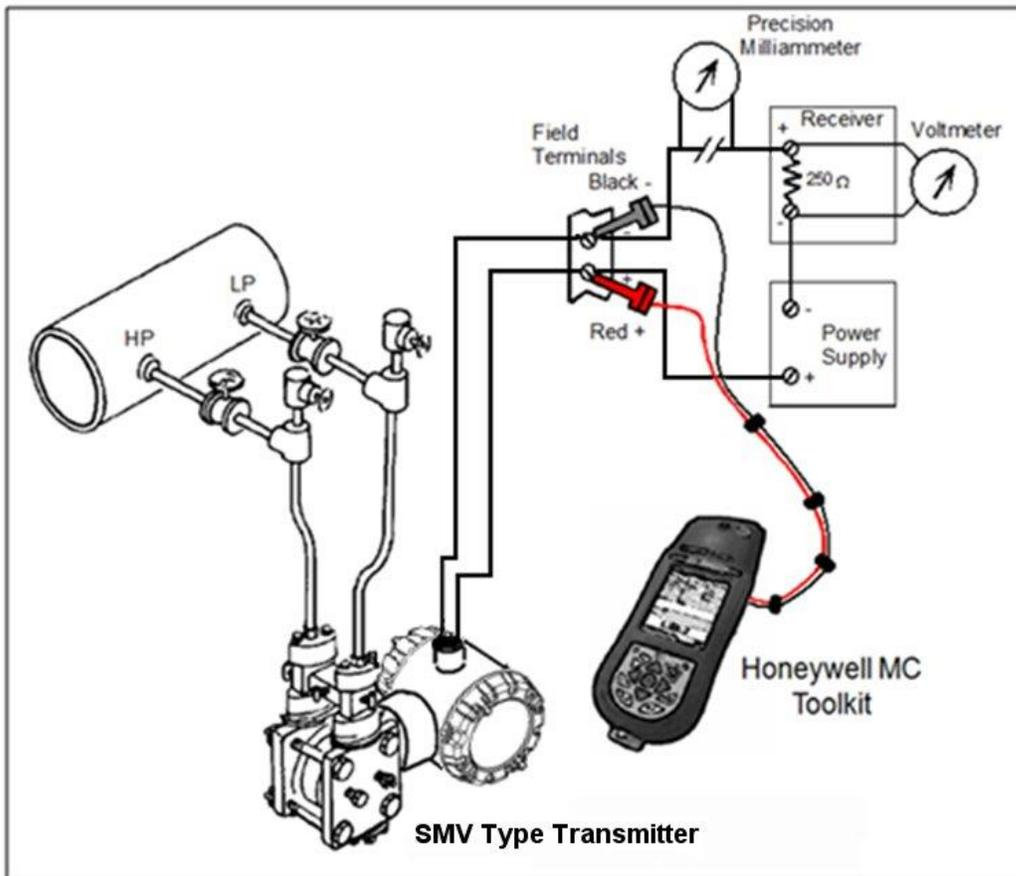

Figure 18 – Current Loop Test Connections
1. Refer to Figure 18 for test connections. Verify the integrity of electrical components in the output current loop.